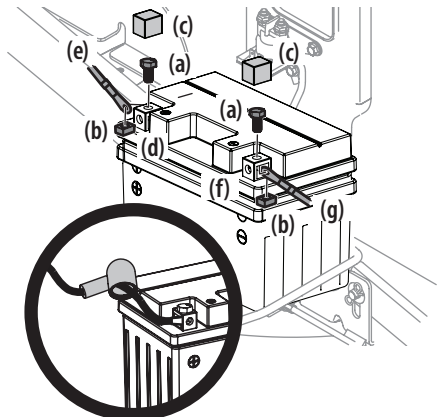

Figure 13
1. Remove the hex screws (a) and square nuts (b) located either on the end of the wiring harness or in the bag with this manual. Retain the hardware for later instructions. See Figure 13.
2. Remove the plastic cover (c), if present, from the positive battery terminal (d) and attach the red cable (e) to the positive battery terminal (d) with one of the hex screws (a) and square nuts (b), from Step 1. Use a Philips screw driver. See Figure 13.
3. Remove the plastic cover (c), if present, from the negative battery terminal (f) and attach the black cable (g) to the negative battery terminal (f) with the remaining hex screw (a) and square nut (b). See Figure 13.
4. Position the red rubber boot over the positive battery terminal to help protect it from corrosion. See inset in Figure 13.